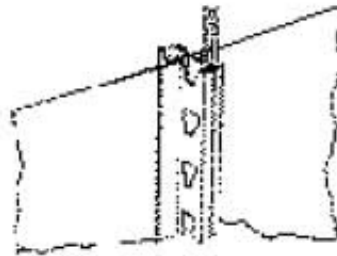

Figure 7
2. Use a clothespin clip to join sections together at the top of posts for back to back shelving. Figure 7.